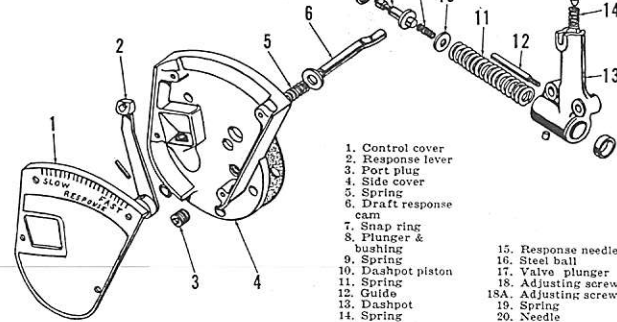

Fig. 288—Draft response dashpot, control cover and associated parts.
249. DRAFT RESPONSE DASHPOT. The draft response dashpot assembly (Fig. 288) attaches to lever bracket (30—Fig. 286 or 287), and can be removed after removing lift cover as outlined in paragraph 247.
To disassemble the dashpot, loosen adjusting screw (18 or 18A—Fig. 288) and remove adjustment rod (20) and spring (19). Invert the housing and remove plunger (17), needle (15) and spring (14). Ball (16) was used on some models only. Depress piston rod and guide (8) and remove snap ring (7), then remove spring (9), piston